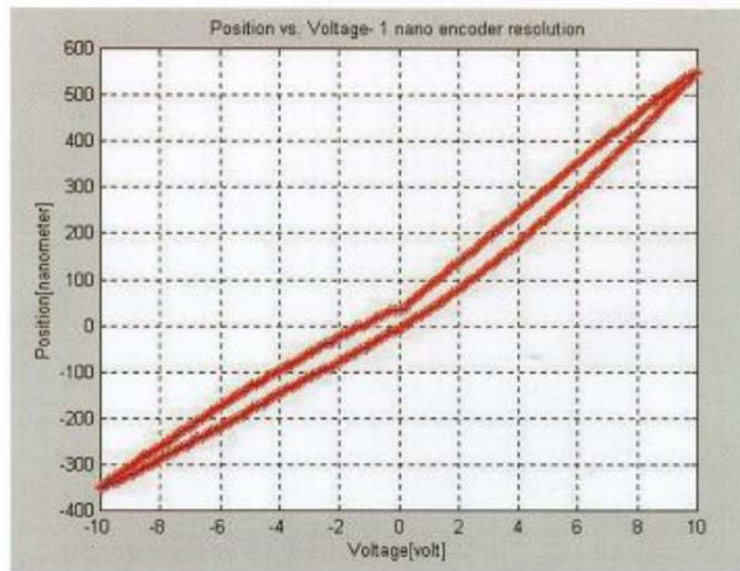

Figure 24: Motor Voltage vs Command AB7 linear mode
- After Velocity mode converts the servo switches from driver mode to DC Mode and the driver converts to point in Position mode (DC).
- The position is a linear function of the command voltage, with certain hysteresis. Some asymmetry is normal and expected (See Figure 24: Motor Voltage vs Command AB7 linear mode).